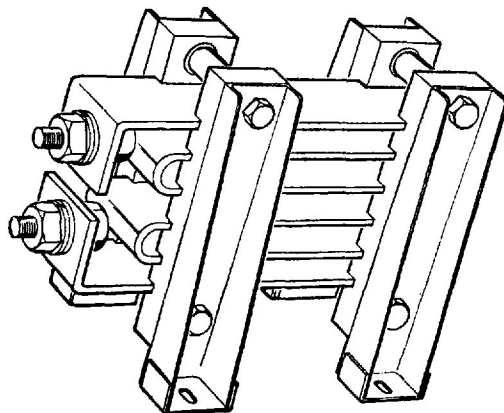

Fig. 1. Resistor unit, Type ZA 8301
2. The unit (*fig. 1*) comprises a resistor element formed from folded "Brightray" strip which is mounted in four "Micallex" insulated clamp brackets. The resistance of the element is 0.015 ohm.